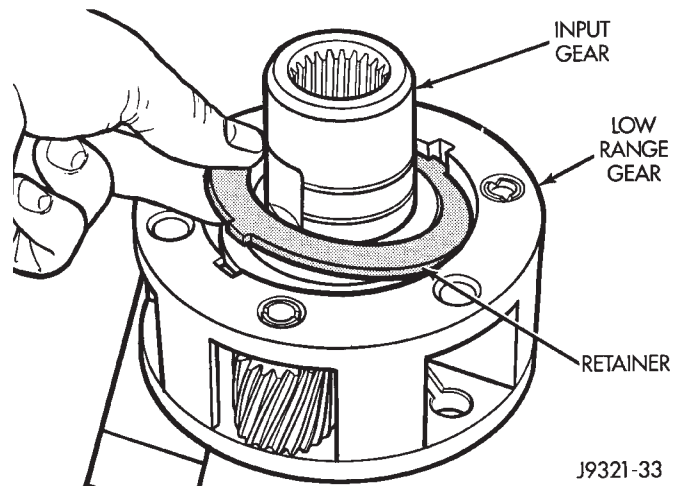

Fig. 36 Input Gear Retainer Removal
(2) Remove retainer (Fig. 36).